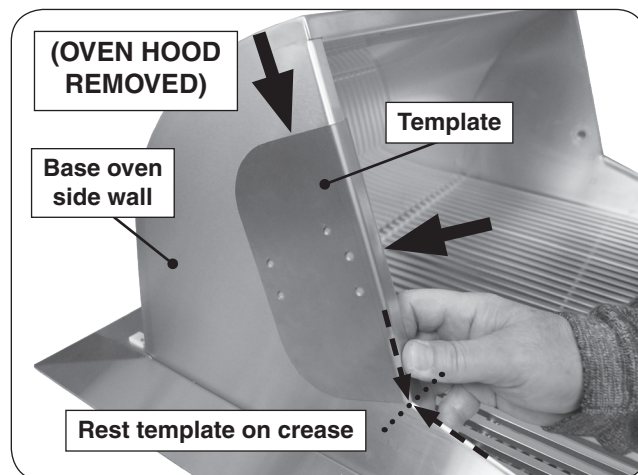

Fig. 2-3 Place drilling template (on oven base)
5. Place the stainless steel drilling template onto the base oven side wall as shown in Fig. 2-3.